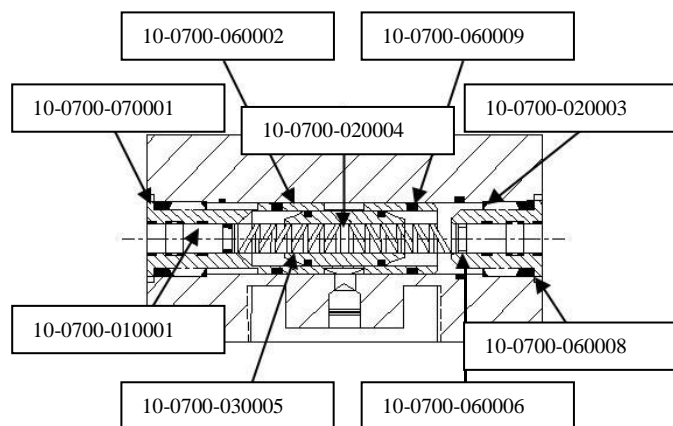

Figure 16
7.0 BYPASS DISASSEMBLY/REASSEMBLY- BOTH SIDES, REAR OF 30L LOW FLOW BLENDER (FIGURE 16)